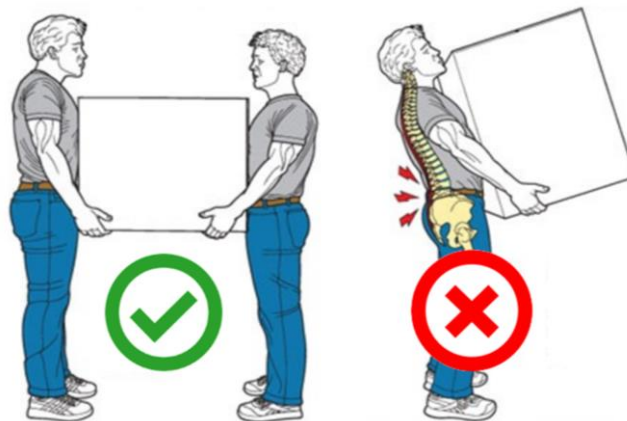

Fig. 6-4 - Handling technique
- Ensure at least two operators manage the lifting of bulky loads (Fig. 6-4);